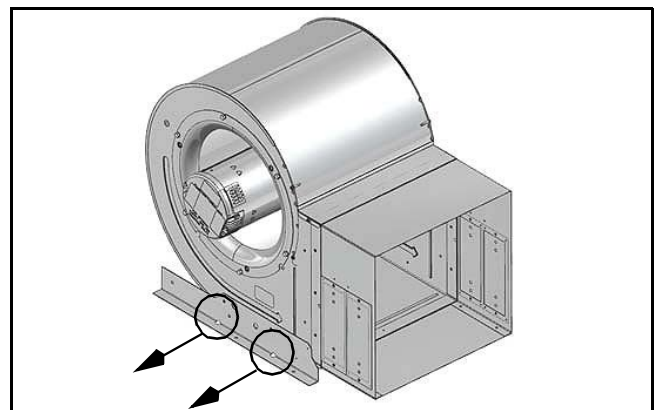

Fig. 14
5. Remove the bracket by removing the two screws securing it and retain the bracket. (See Fig. 14.)